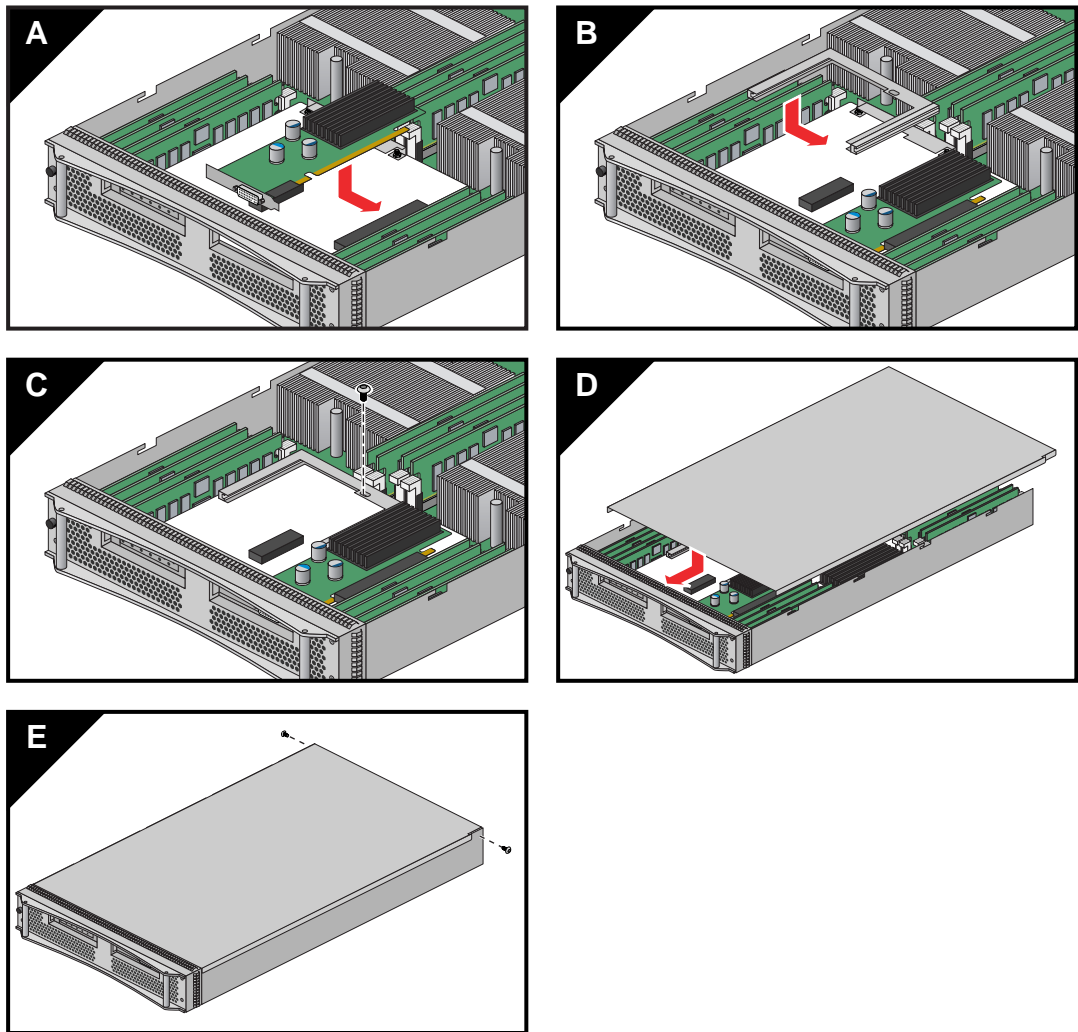

Figure 5-6 Install/Replace a New PCIe Card in the Riser Blade
8. Install a new PCIe card by aligning the board's interface connector with the riser's and inserting until the card is flush to the connector, see Figure 5-6 on page 64. The PCIe connector(s) such as graphics, Fibre Channel, etc. should protrude from the blade's front.